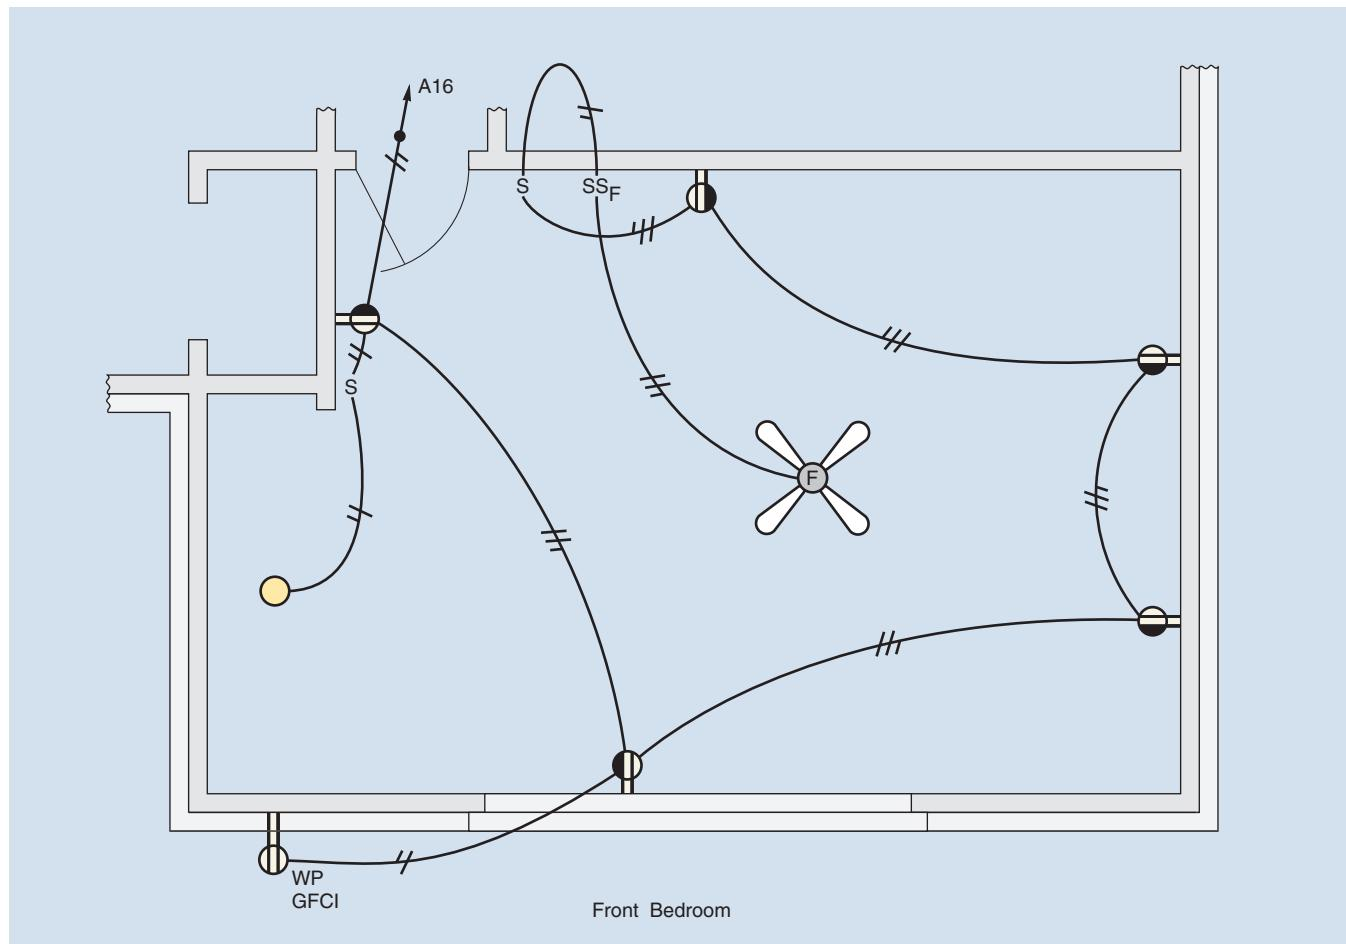

FIGURE 8-7 Cable layout for Front Bedroom circuit, A16. (Delmar/Cengage Learning)
The Front Bedroom is the beginning of our journey to study the wiring of a typical dwelling. Circuit A16 is a 15-ampere branch circuit. This branch circuit involves two key issues: (1) the requirement for GFCI protection dealt with in 210.8(A)(3) for the receptacle located outside the front of the house, and (2) the requirement for AFCI protection dealt with in 210.12(A). In accordance with 210.12(A), arc-fault circuit protection for this circuit is provided by a 15-ampere AFCI circuit breaker in Panel A. GFCIs and AFCIs are discussed in detail in Chapter 6. As we look at this circuit, we find five split-wired or half-switched receptacle outlets. These will provide the general lighting through the use of table or other lamps that will be plugged into the switched receptacles, as shown in Figure 8-7.